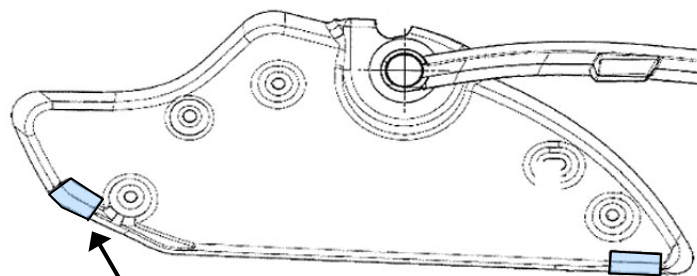

Figure 33
37. Cut six 20 mm x 30 mm pieces from the 3 mm sheet, and then apply under the flipper door as shown in Figure 33 and 34.